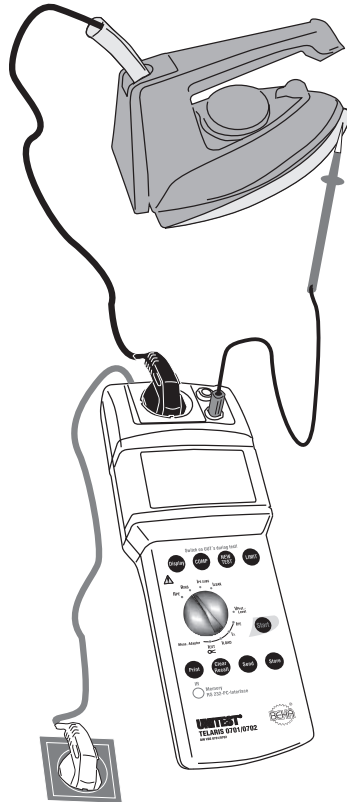

Figure 6.6: Insulation resistance measurement for appliances of protection class II
- For appliances of protection class II or III connect, in addition, the 'PE' socket (5) to all touchable, conductive casing parts of the UUT, please refer to Figure 6.6. This is also applicable for conductive parts of class I appliances which are NOT connected to PE.
- The measurement results can be saved by pressing the key "Store" (10). For references regarding the saving of measurement values, please refer to section 7.1 and 7.2.